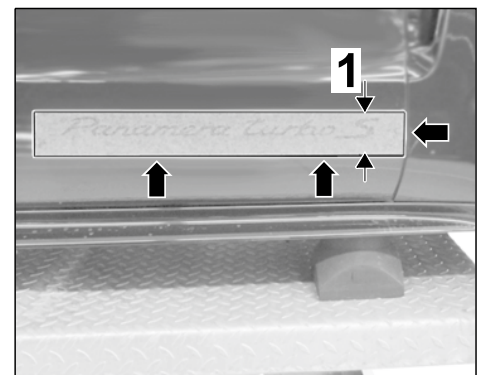

Figure 2
- 1.2 Carefully pull the logo off the backing sheet. For "non-S" models, just cut off the backing sheet in the specified area ⇒ *Figure 2 -1-*. The cut edge is the new reference point for the front edge of the door on non-S models.
- 1.3 Fit the backing sheet flush with the front edge of the door and the edge of the door (⇒ *Figure 2* arrows). Affix backing sheet with logo flush with the lower edge of the door.